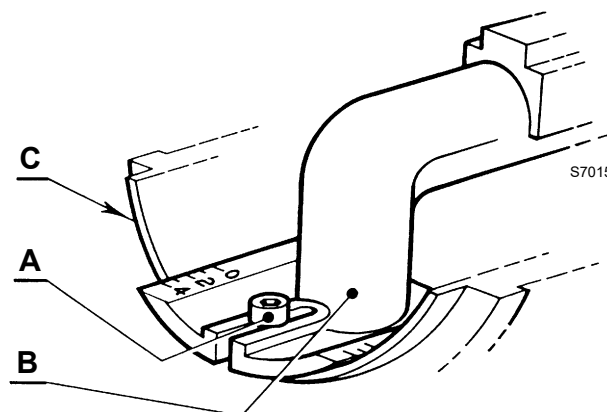

Fig. 9
- loosen the screw A)(Fig. 9), move the elbow B) so that the rear plate of the coupling (C) coincides with the set point;